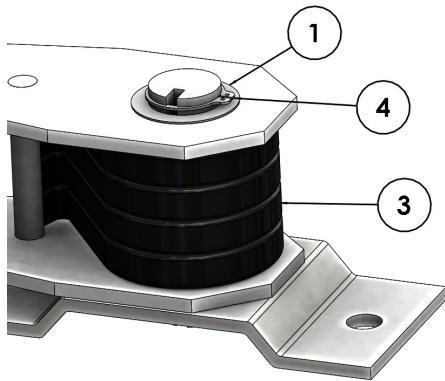

Figure 2.9
Continue installing remaining springs (3), then flat washer (1), and secure with snap ring (4) as shown in Figure 2.9. Repeat procedure for opposite side of dump box.